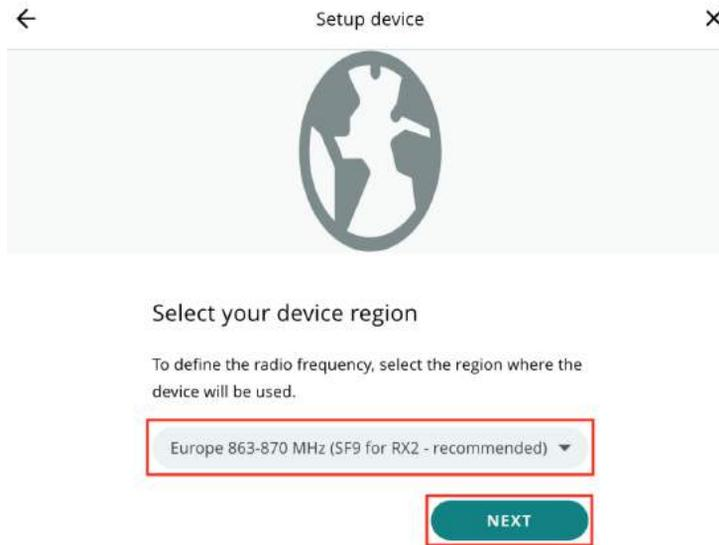

Figure 6.13 – The MKR WAN 1300 frequency selection
5. After associating the device, you will receive an email with a username and password, as well as a URL for the The Things Stack portal login, which contains all the information about LoRaWAN nodes. Here, the Arduino IoT Cloud will automatically add the MKR WAN 1300 to the The Things Stack portal after the final steps. Next, *Figure 6.13* shows that we need to select a frequency for our device.